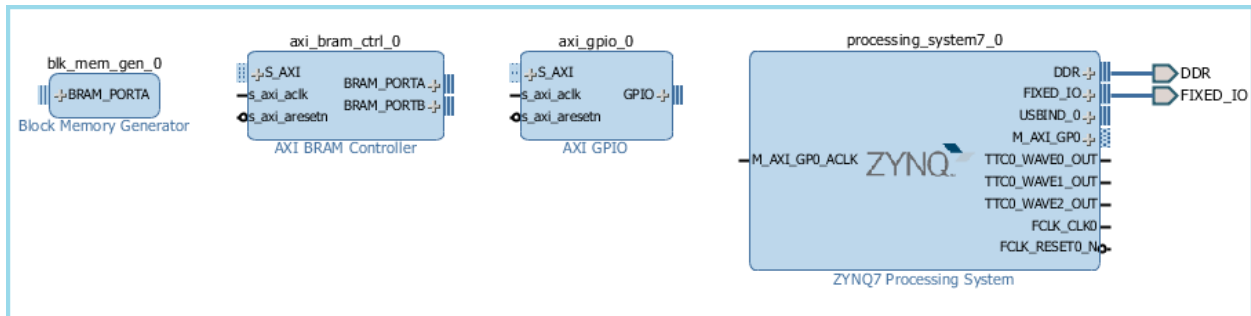

Figure 10: Block Design after instantiating IP.
7. Now you can add peripherals to the processing logic (PL). To do this, right-click the IP Integrator diagram and select **Add IP**.
9. Repeat the action, typing axi_bram to find the AXI BRAM Controller, and typing block to find and add the Block Memory Generator. The Block Design window matches Figure 10. The relative positions of the IP will vary.